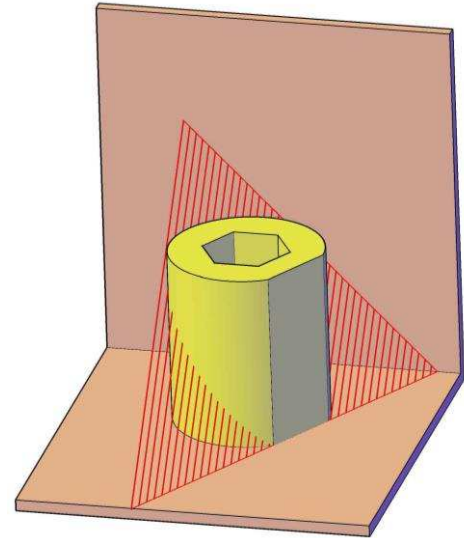

Figure 1a
1. A right cylinder with a hexagonal hole is placed resting on its circular base on a horizontal plane. The traces VTH of an oblique plane are shown passing through the cylinder cutting off the upper portion as illustrated in Figure 1a.